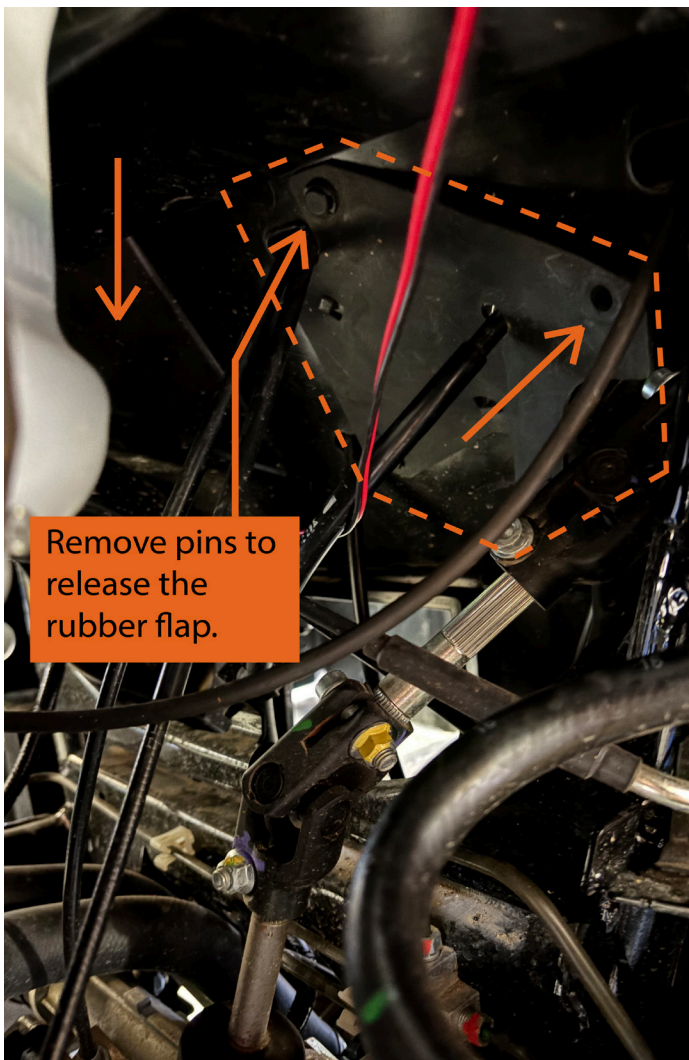

FIGURE 2
5. Remove the rubber flap next to where the steering column enters the front of the machine. FIGURE 2